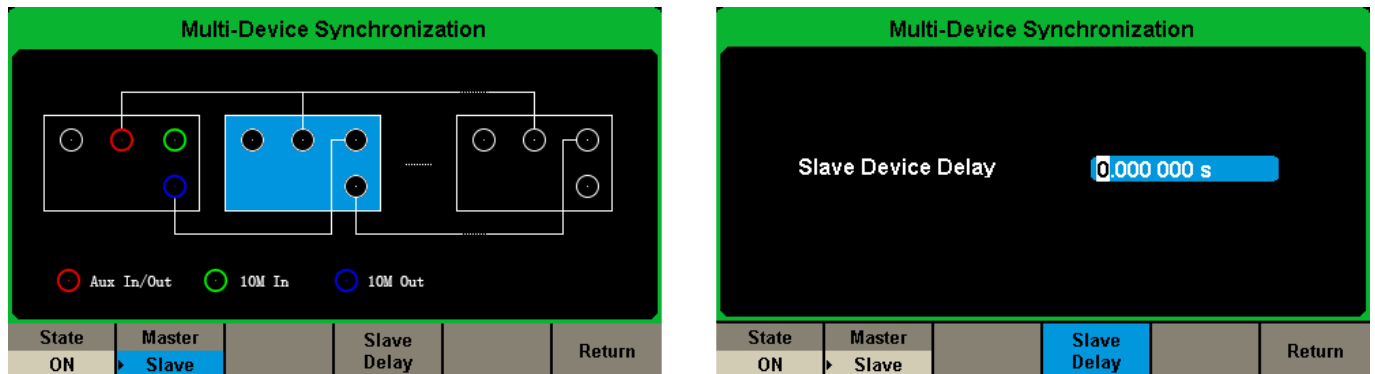

Figure 8. Set the Slave Delay
2) Turn on the State. Then the Slave Device Delay window will occur. Press to enter delay value, as shown in Figure 8.